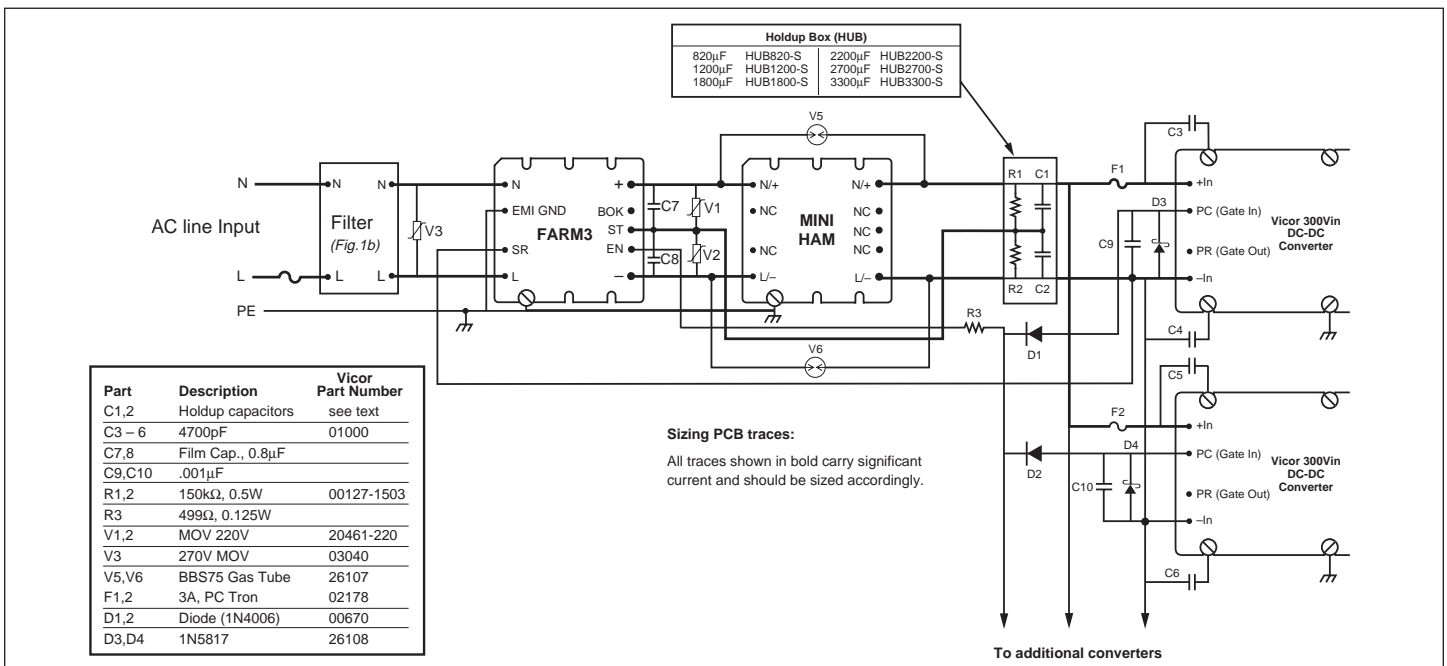

Figure 1a—ENMods system and DC-DC converter interconnection drawing
Electrical characteristics apply over the full operating range of input voltage, output power and baseplate temperature, unless otherwise specified. All temperatures refer to the operating temperature at the center of the baseplate. Performance specifications are based on the ENMods system as shown in Figure 1a.
■ MINIHAM MODULE SPECIFICATIONS (when used in accordance with Figure 1a)
■ ELECTROMAGNETIC COMPATIBILITY (configured as illustrated in Figures 1a and 1b)
The ENMods system provides transient/surge immunity, harmonic current attenuation and EMI filtering, in addition to all of the power switching and control circuitry necessary for autoranging rectification, inrush current limiting, and overvoltage protection. Converter enable and status functions for orderly power up/down control or sequencing are also provided. To complete the AC front end configuration, the user only needs to add hold-up capacitors, a simple EMI filter, and a few discrete components (Fig 1A).
Pin Descriptions (see Figure 1a)
It should be noted that the series combination ($C1$, $C2$, see Figure 1a) requires each capacitor to be twice the calculated value, but the required voltage rating of each capacitor is reduced to 200V.